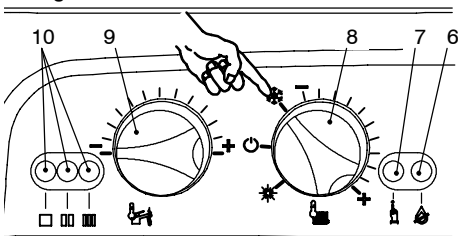

Fig. 7.10
- 2 Set the function knob 8 as illustrated in Fig. 7.10.